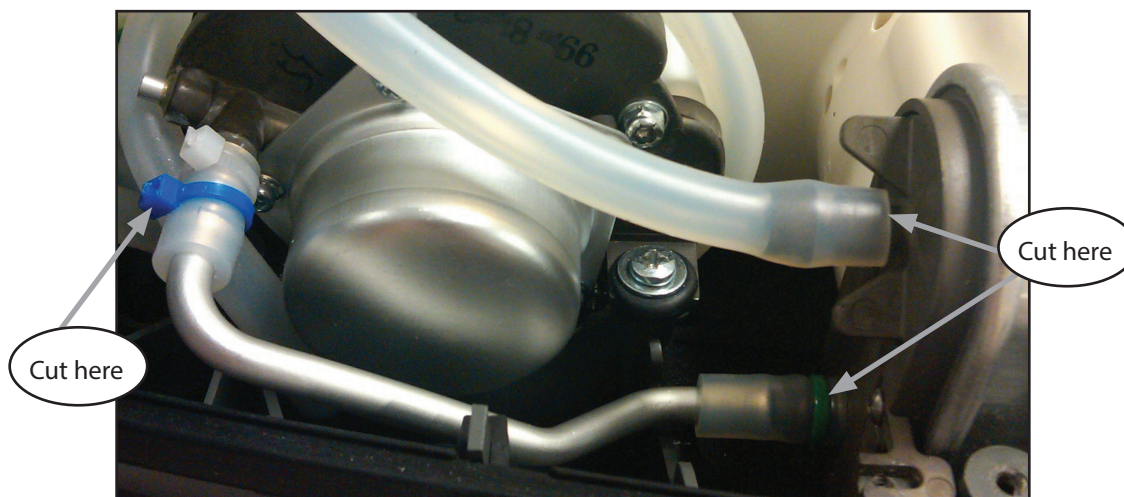
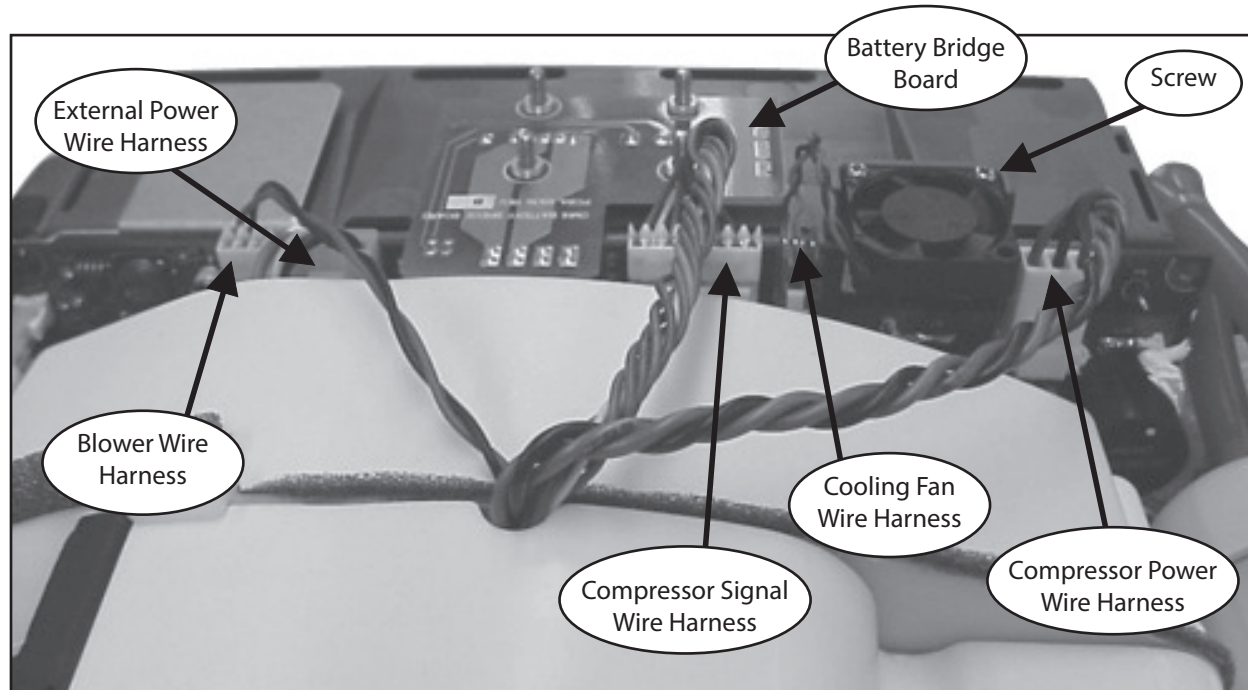

Figure 49: Cut Cable Ties
Figure 57: Power Manager PC Board Removal.
- 3) Locate the metal Product Tank and cut the cable ties from the ATF to the Product Tank(Bottom), and O2 Out from the outlet connector(Top). Remove tubing from ATF to Lower Product Tank barb and set aside for installation. See Figure 49.
3. Disconnect the 5 wire harnesses as shown in Figure 49. Remove the Battery Bridge PCB as shown in Figure 57.
4. Unscrew the 2 screws (M2x10 Pan Head Machine Screw, P/N 6961-210-SEQ) holding the fan shown in Figure 49. Remove fan.
8. Install the fan with the 2 screws and lightly tighten as shown in Figure 57. Apply Loctite 425 Thread Locker on the tips of the screws before installing. Ensure that it is blowing down as indicated by the arrow on the side of the Fan.
9. Install the Battery Bridge PCB and 4 wire harnesses shown in Figure 57.